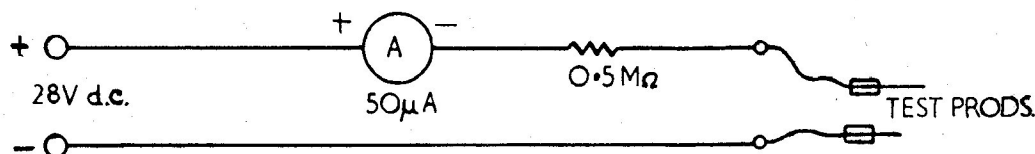

Fig. 5. Insulation test circuit
27. Measure the leakage current using a 0–50 μ A industrial grade ammeter or multi-meter type 12889 with a 0.5 megohm ($\frac{1}{4}$ W) resistor in series with the positive probe as shown in fig. 5. Connect the test circuit (fig. 5) to a d.c. supply variable between zero and 28V. Increase the voltage gradually from zero to 28V. The leakage current should not exceed 1.4 μ A when this voltage is applied between each designation shown and the remainder:—